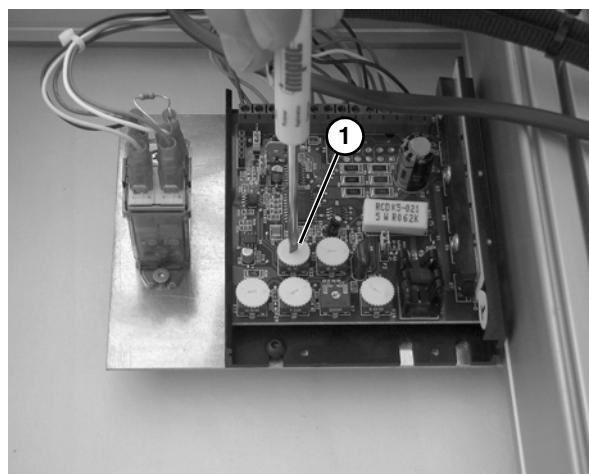

Figure 23
4. Rotate potentiometers (**Figure 23, item 1**) to desired setting.